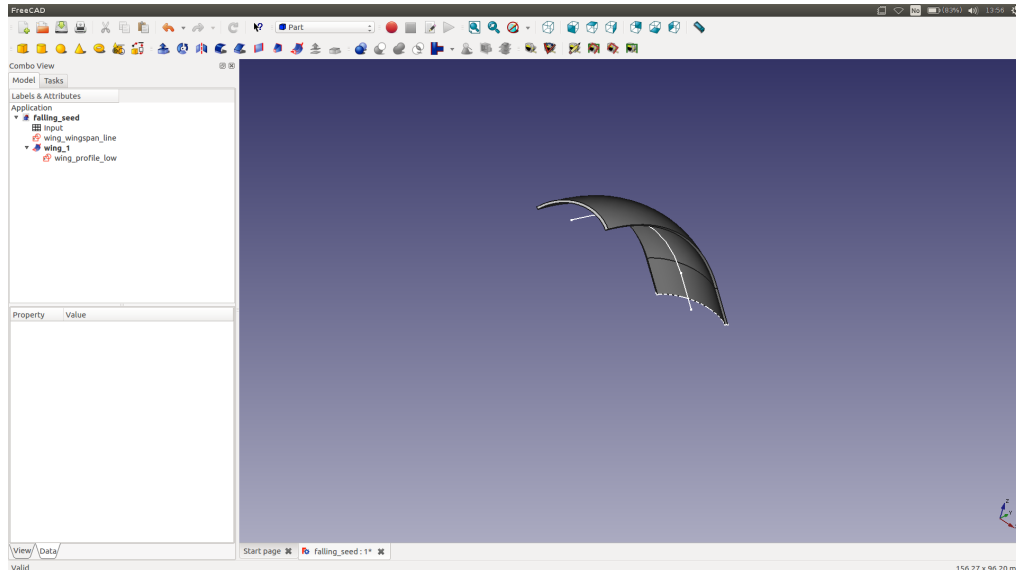

Figure 5
- We will now build a 3D wing from the wing base and the wingspan line. Go to the **Part** workbench. Click on the **Utility to sweep**. Set the **wing\_profile\_low** as the sketch to sweep using the arrow pointing to the right. Click the **Sweep Path** button and select both the line and arc of circle you created in the **wing\_wingspan\_line** sketch, then click **Done**, and **Ok**. This will create an empty shell. To turn this into a volume, click on the **sweep** object that was created in the **Labels & Attributes** tab, and in **Data** set **Solid** to **True** and **Fresnet** to **False**. You should now have a wing similar to Fig. 5. Rename the sweep object as **wing\_1**.